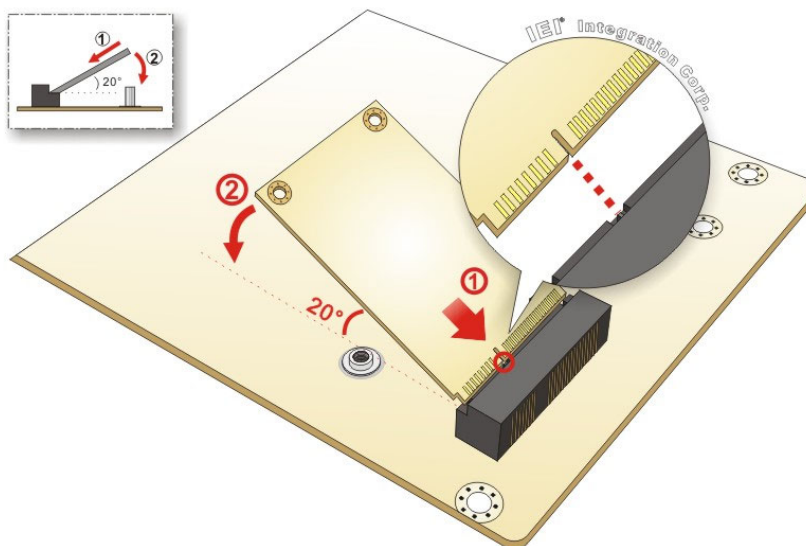

Figure 4-8: Inserting the Full-size PCIe Mini Card into the Slot at an Angle
Step 3: Insert into the socket at an angle. Line up the notch on the card with the notch on the slot. Slide the PCIe Mini card into the socket at an angle of about 20° (Figure 4-8).